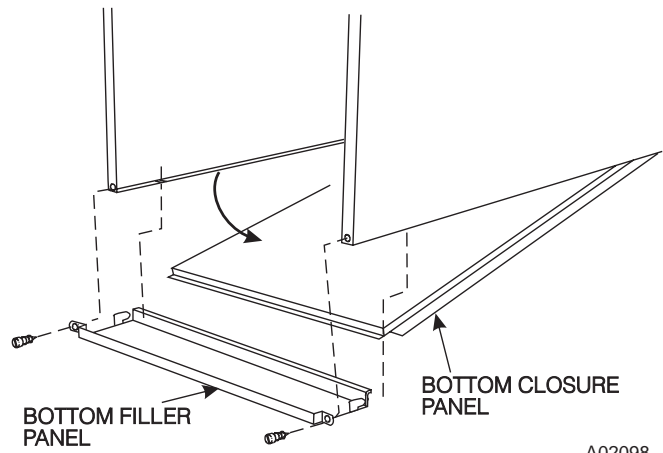

Fig. 9—Removing Bottom Closure Panel
1. Tilt or raise furnace and remove 2 screws holding bottom filler panel. (See Fig. 9.)